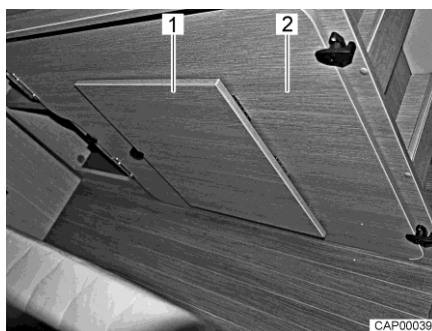

Fig. 44 Removable board on the right-hand bedding box
- Remove additional removable board (Fig. 44,2) from the right-hand bedding box in the rear.
- Fold footrest (Fig. 44,1) out on the removable board.